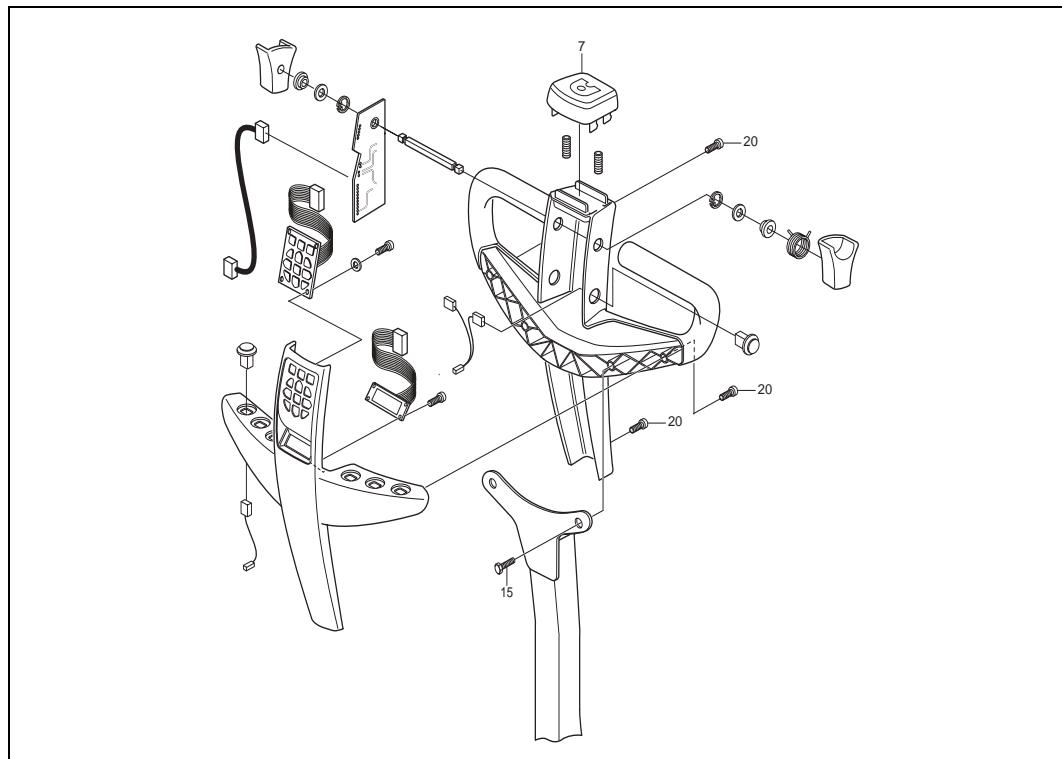

Figure 7.1 Tiller head
1. Loosen the three screws, pos. 20 see Figure 7.1, that secure the upper cover.
2. Press in the belly switch, pos. 7 see Figure 7.1, and release the cover by carefully pushing it upwards and outwards.
3. Loosen the two screws. pos. 15 see Figure 7.1.